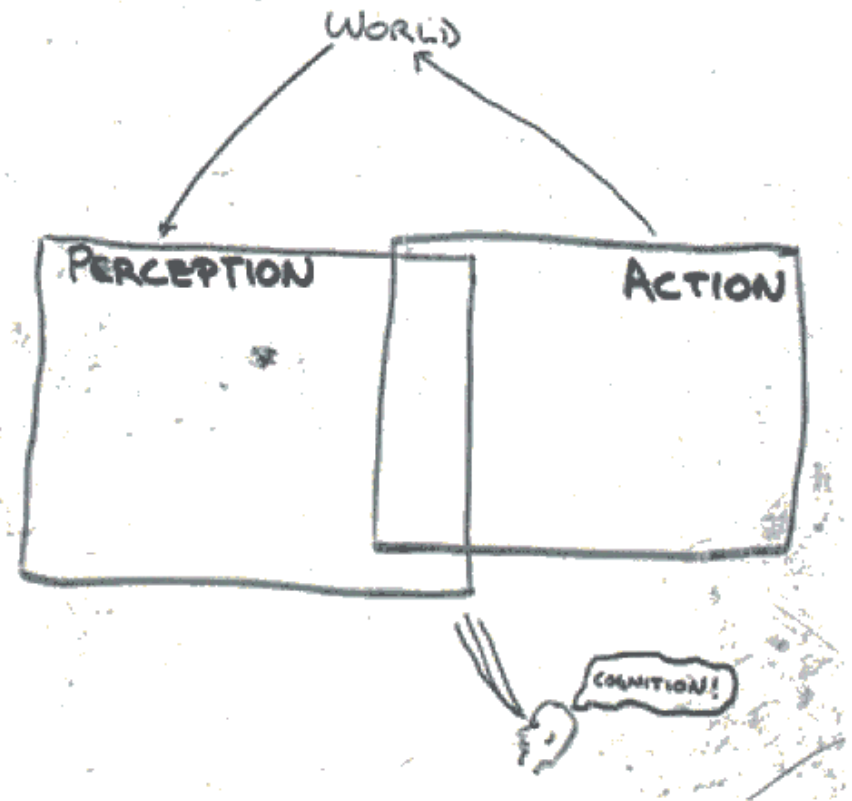

Figure 2: The new model, where the perceptual and action subsystems are all there really is. Cognition is only in the eye of an observer.
**Figure 2:** The new model, where the perceptual and action subsystems are all there really is. Cognition is only in the eye of an observer. *Tratto da A. Brooks, "Cambrian Intelligence"*